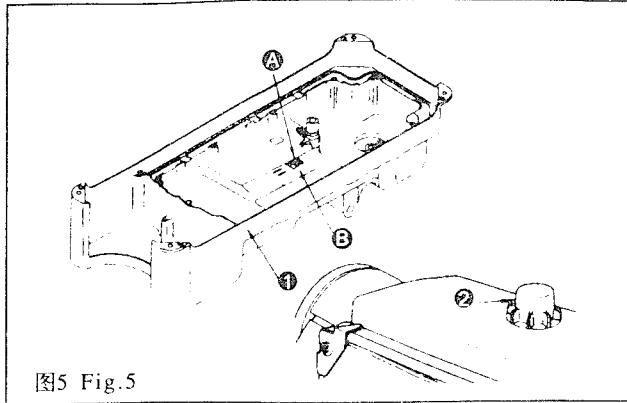
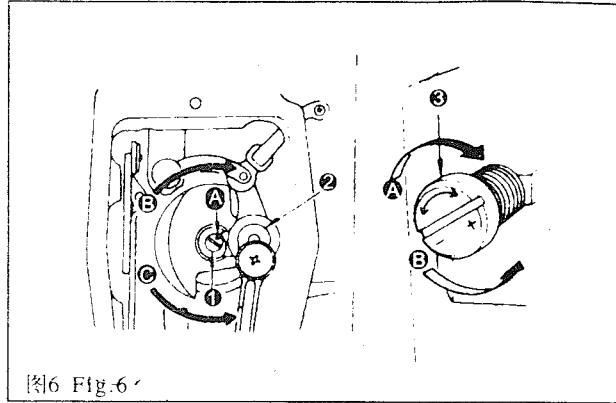

图5 Fig.5
图6 Fig.6
## 1. 机器的润滑(图5、图6)
### 1. LUBRICATION (Fig.5, Fig.6)
#### 1. 润滑须知: (图5)
- 1) 向油盘①内加缝纫机油(10号白油)至HIGH记号部位A。(图5)
- 3) 加油后, 开动机器, 应看到油液飞溅到油窗②上, 说明润滑正常。
#### 2. 调节面部油量: (图6)
#### 3. 调节旋梭油量: (图6)
#### 1. Information on lubrication (Fig.5)
#### 2. Adjusting the amount of oil supplied to the face plate parts (Fig.6)
#### 3. Adjusting the amount of oil supplied to the hook (Fig.6)